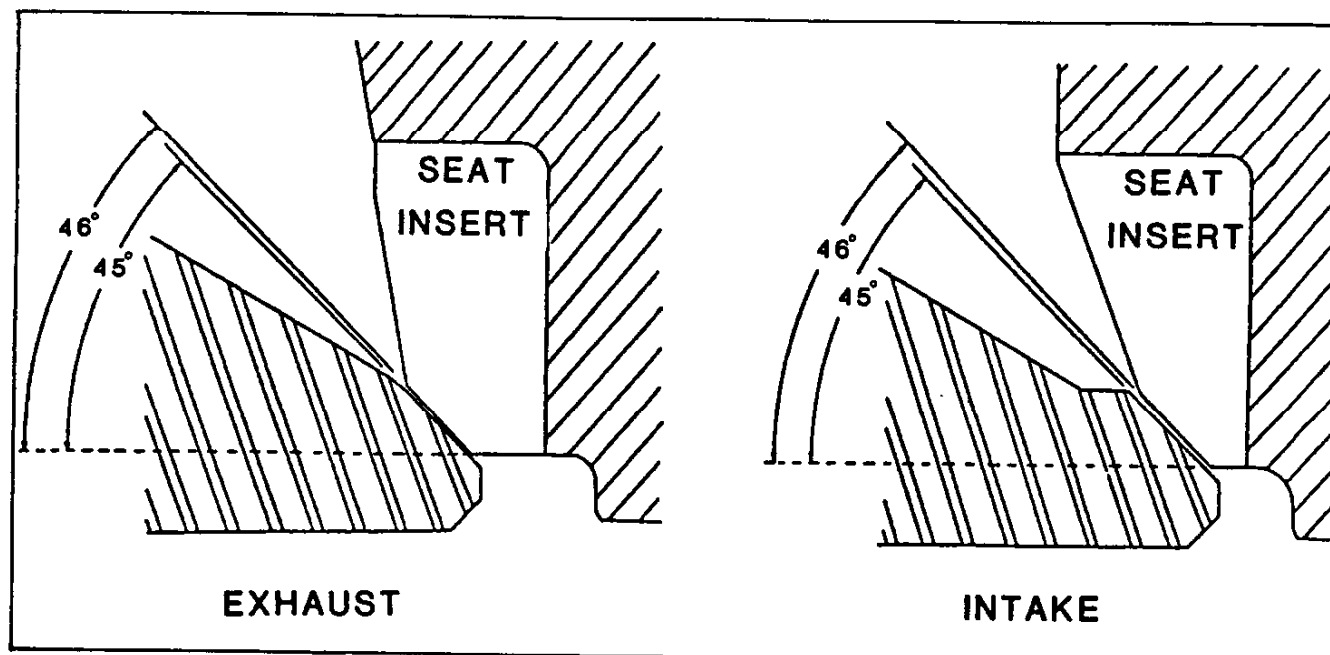

Fig. 23—Relationship of Valve and Seat Angles
1. If necessary, dress the valve refacing machine grinding wheel to make sure it is smooth and true. Set chuck at angle specified for valve. Refer to figure 23 and specifications.